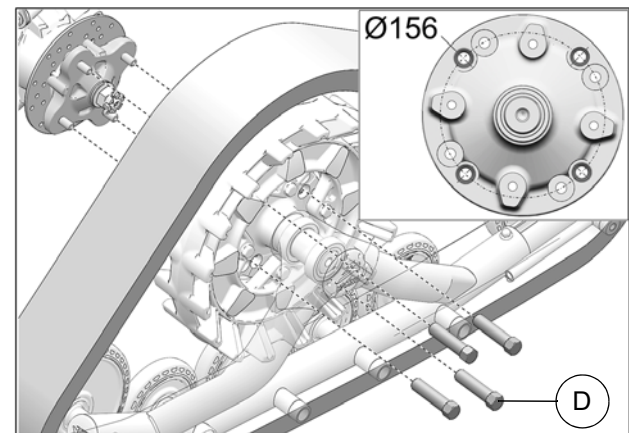

Fig. 6
6. Secure undercarriage to rear hub using the lug nuts (D) provided. Use bolt circle Ø156mm. See Fig. 6